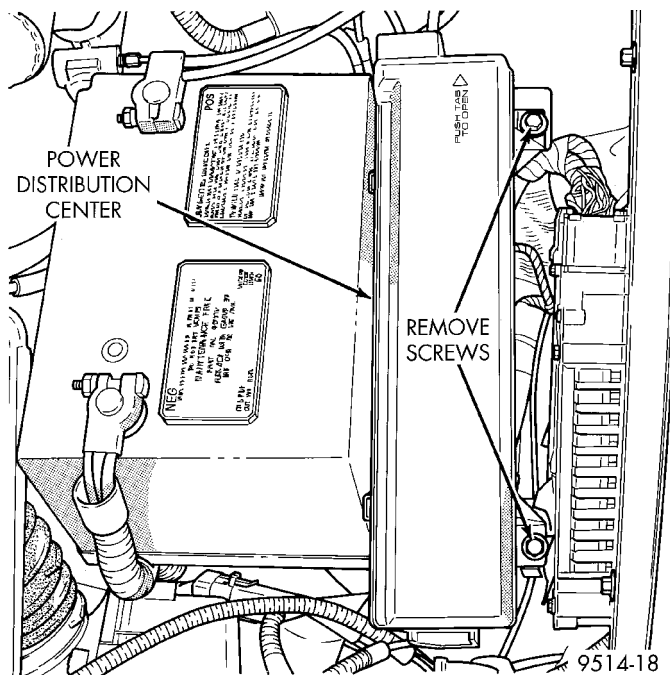

Fig. 31 Power Distribution Center Retaining Screws
- (1) Disconnect both cables from battery, negative cable first.
- (2) Remove 2 screws holding Power Distribution Center (PDC) to bracket (Fig. 31).